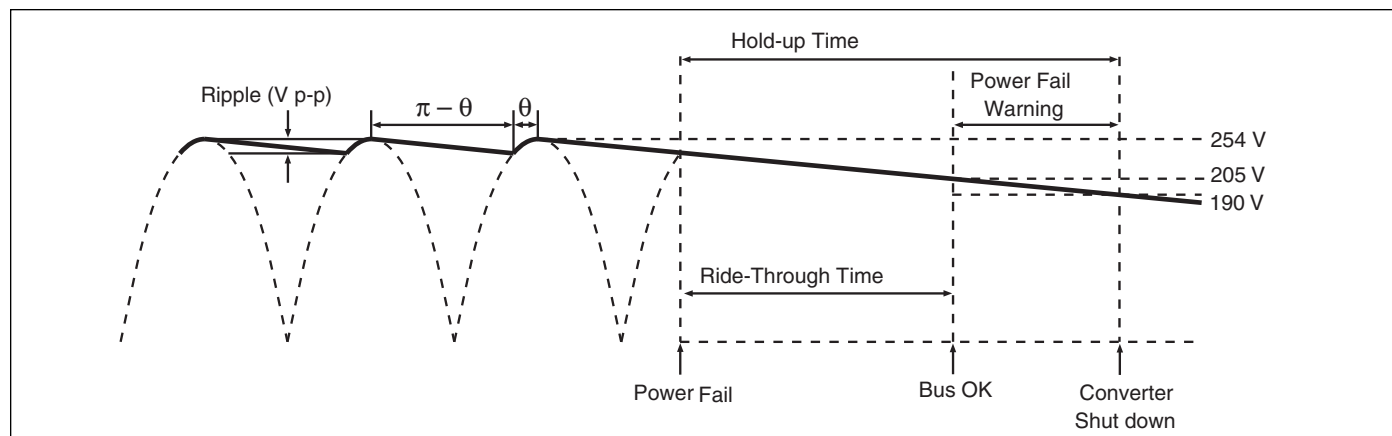
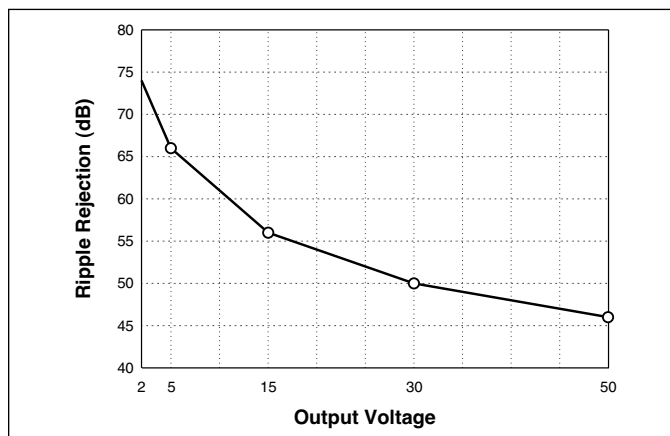

Figure 7-7 — General timing diagram of bus voltage following interruption of the AC mains
Figure 7-11 — Converter ripple rejection vs. output voltage (Typical)
The power fail warning time (Δt) is defined as the interval between (BOK) and converter shutdown (EN) as illustrated in Figure 7-7. The Bus OK and Enable thresholds are 205 V and 190 V, respectively. A simplified relationship between power fail warning time, operating power, and bus capacitance is obtained by inserting these constants:
For example, a converter whose output is 15 V and nominal input is 300 V will provide typically 56 dB ripple rejection, i.e., 10 V p-p of input ripple will produce 15 mV p-p of output ripple. (Figure 7-11) Equation 3 is again used to determine the required capacitance. In this case, V_1 and V_2 are the instantaneous values of bus voltage at the peaks and valleys (Figure 7-7) of the ripple, respectively. The capacitors must hold up the bus voltage for the time interval (Δt) between peaks of the rectified line as given by:
(Figure 7-7)
Determining the Ripple on the Output of the DC-DC Converter. Figure 7-11 is used to determine the ripple rejection of the DC-DC converter and indicates a ripple rejection of approximately 60 dB for a 12 V output. If the ripple on the bus voltage is 12 Vac and the ripple rejection of the converter is 60 dB, the output ripple of the converter due to ripple on its input (primarily 120 Hz) will be 12 mV p-p.